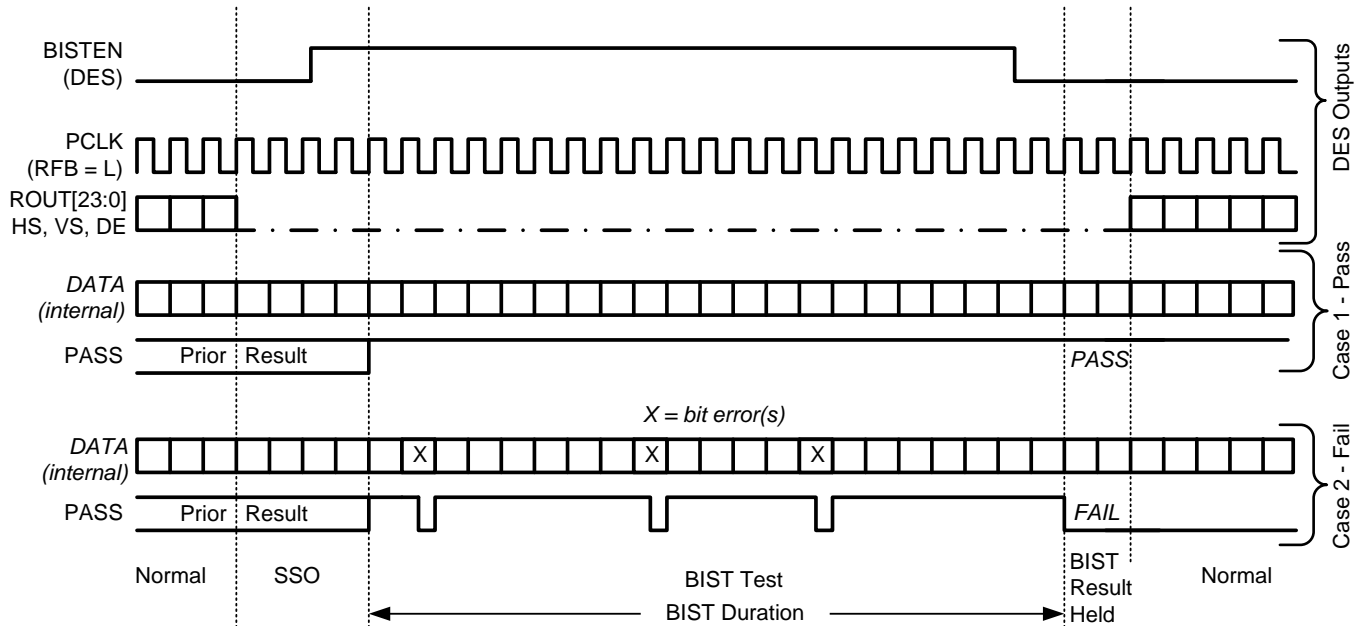

Figure 20. BIST Waveforms
Step 4: The Link returns to normal operation after the deserializer BISTEN pin is low. Figure 20 shows the waveform diagram of a typical BIST test for two cases. Case 1 is error free, and Case 2 shows one with multiple errors. In most cases it is difficult to generate errors due to the robustness of the link (differential data transmission etc.), thus they may be introduced by greatly extending the cable length, faulting the interconnect, reducing signal condition enhancements (Rx Equalization).